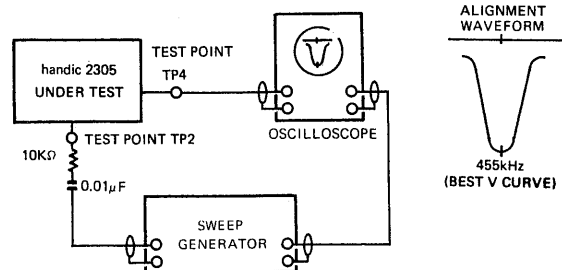

FIGURE 6
- Step 1: Connect the instruments as shown in Figure 6.